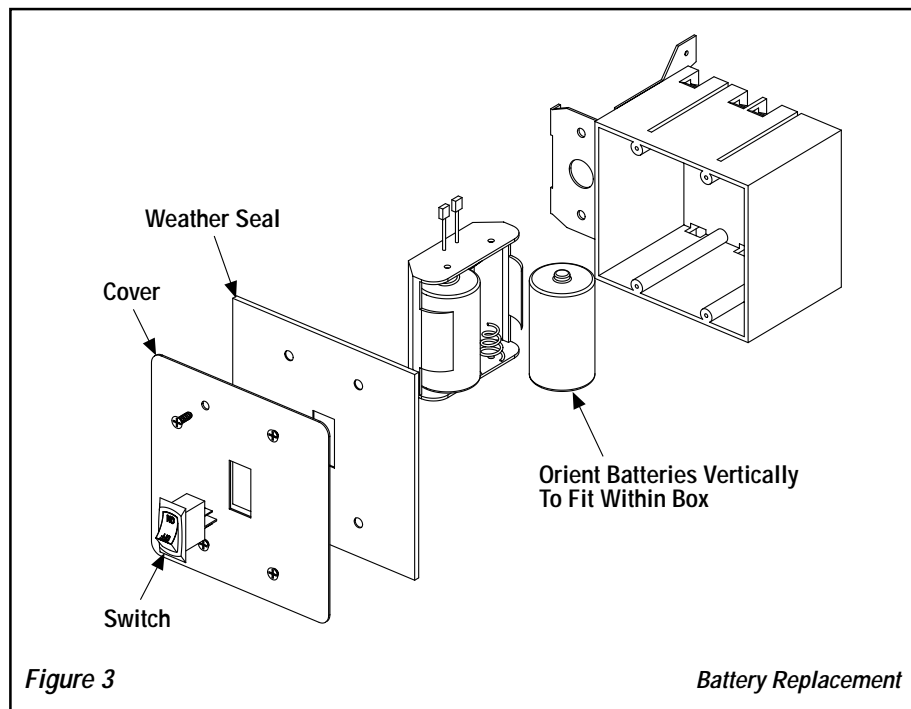

Figure 3
The intermittent ignition system operates on 3 volts provided by two (2) "D" cell batteries. The batteries are located in a pack installed within the J-Box, behind the stainless ON/OFF switch panel. Refer to **Figure 3**.